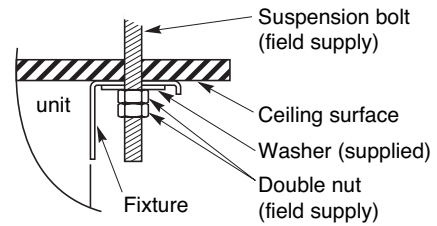

Fig. 3-80
- (6) Preparation for suspending the indoor unit. The suspension method varies depending on whether the unit is next to the ceiling or not. (Figs. 3-80 and 3-81)